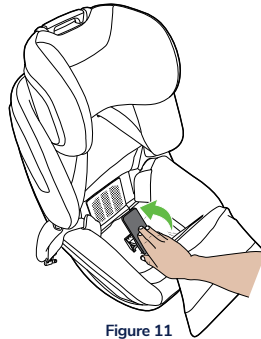

Figure 11
Step 1. Press the SMART Lock® down firmly to tighten and lock the vehicle seat belt installation (Figure 11).